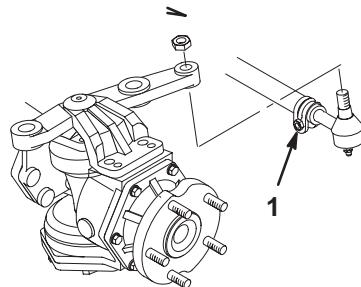

Figure 3
1. Remove cotter pins and castle nuts from ball joint ends of tie rod. Insert ball joint ends into rear hole of each axle steering arm. Insert ball joints from bottom of each steering arm (Fig. 3).